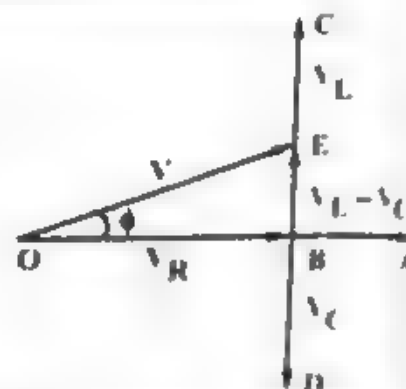

Fig. 2.34 Phasor Diagram of R-L-C Series Circuit ($V_L > V_C$)
The phasor diagram of this circuit can be drawn by taking the r.m.s. value of current as a reference phasor. It is represented in fig. 2.34, by OA . The voltage drop V_R across the resistor R is in phase with the current and is represented by OB . The voltage V_L across the inductance L leads the current phasor by 90° (BC). The voltage V_C across the capacitor lags the current by 90° and is shown by phasor BD . Phasors BC and BD are in direct opposition and hence their resultant is given by, $BE = BC - BD$ [assume $BC > BD$]. Hence the applied voltage will be the phasor sum of the phasor OB and BE , say OE from the phasor diagram,